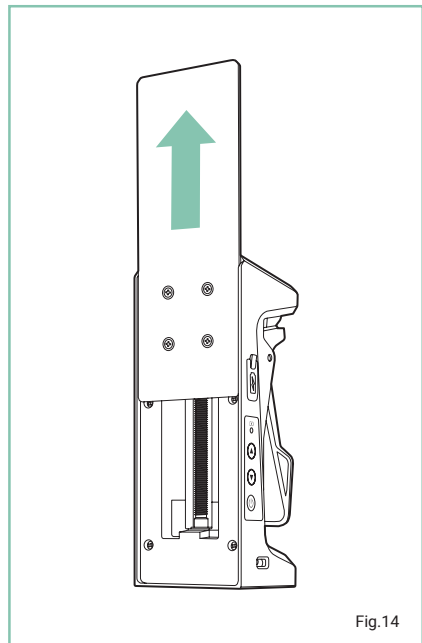

Fig.14
- The motorised mount features precise vertical adjustments by pressing the **up button** or the **down button** on either the motorised mount or the remote control (Fig.14).